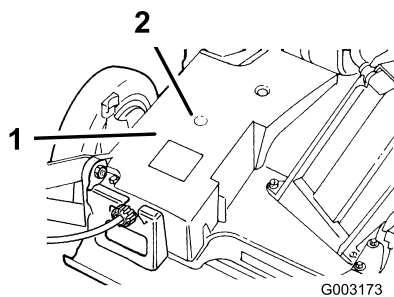

Figure 21
2. Wipe the grease fittings with a clean rag (Figure 21).
3. Install a grease gun onto the fitting through the belt cover opening (Figure 21).